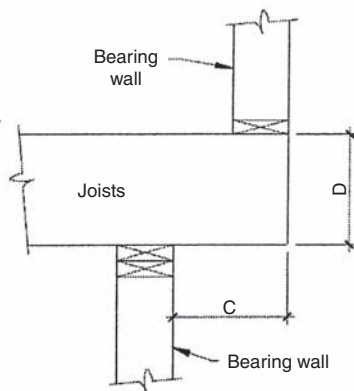

Figure 5: Cantilever limits
For load bearing walls, the maximum distance that joists can be cantilevered (C) without engineering is a distance equal to the depth of the joist (D), see Figure 5. Thus, for a 2x10 joist, the maximum cantilever for a load bearing wall is 9-1/4 inches, the net width of the lumber. Beyond this distance, shear forces and the bending moment at the support can become a problem, eventually causing splitting of the cantilevered joist.